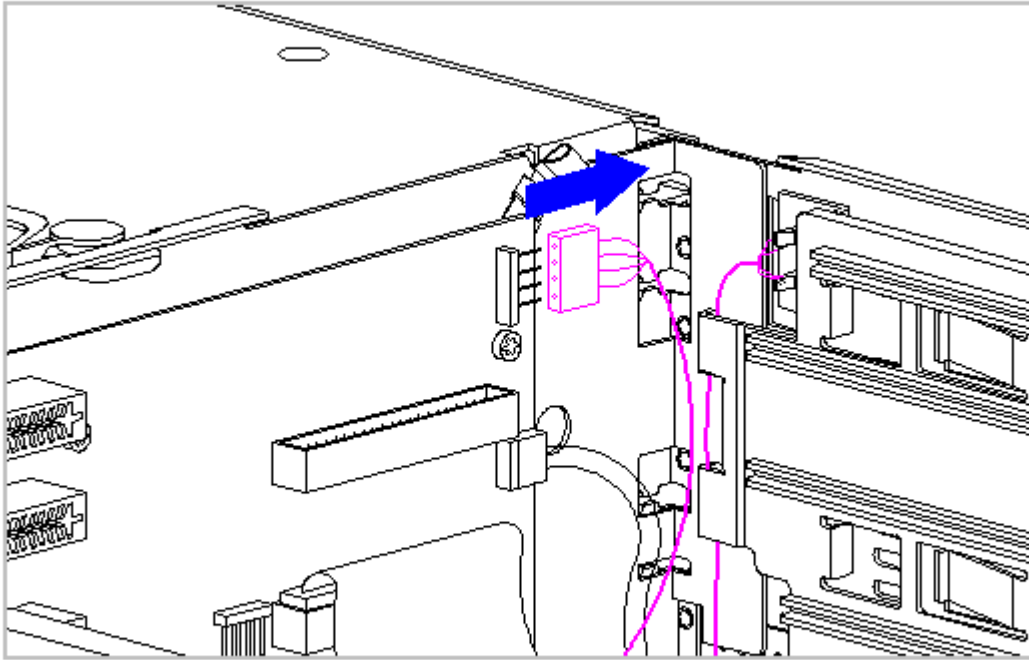

Figure 5-43. Disconnecting the LED Cable
The LEDs are mounted on the front card bracket (Figure 5-43). The option cards, system board, and fax/modem card must be removed prior to removing the LEDs. To remove the LEDs, complete the following steps:
5. Disconnect the LED cable from its connector on the backplane (Figure 5-43).
NOTE: For reference during replacement, note how the LED wires route through the end of the card guide (Figure 5-43).